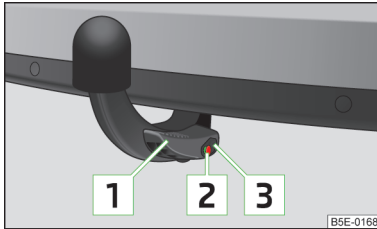

Fig. 156
- ✓ Lever **1** is up as far as it goes » Fig. 156.